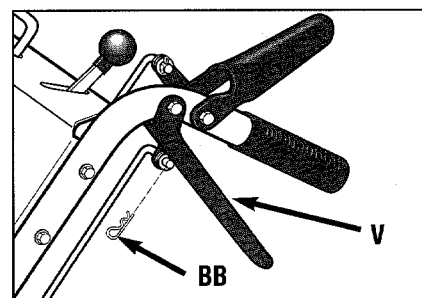

Figure 2-6A: Attach wheel drive control rod to lever.
4. At upper end of control rod, secure angled end to Wheel Drive Control lever (V, Figure 2-6A), using a hair pin cotter (BB).